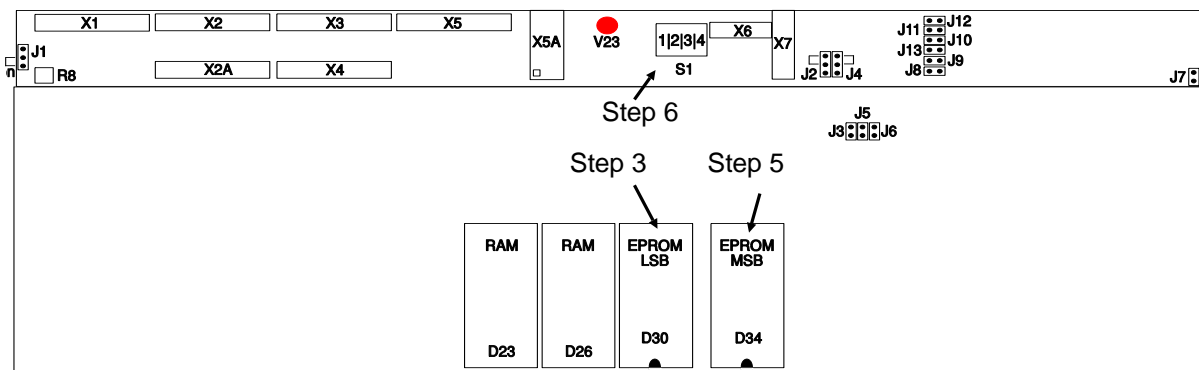

Fig.2
3. Locate the LSB/EVN PROM on PCB 717 (fig.2) and carefully lift it out of its socket using a small screwdriver.
6. Check that all 4 dip switches on S1 (fig.2) are set to position off.